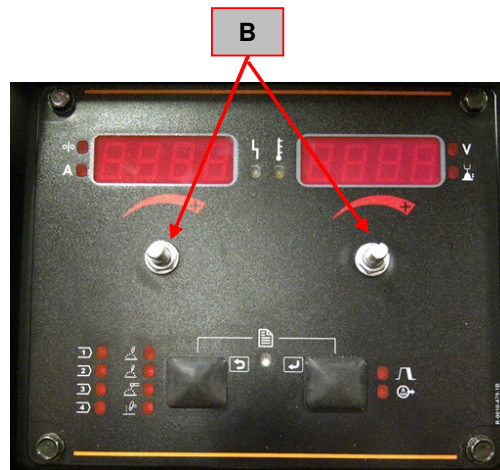

Figure 15
- Using the 10 mm wrench remove the two nuts (B) that are fixing the two encoders to the UI panel. See **Figure 15**.